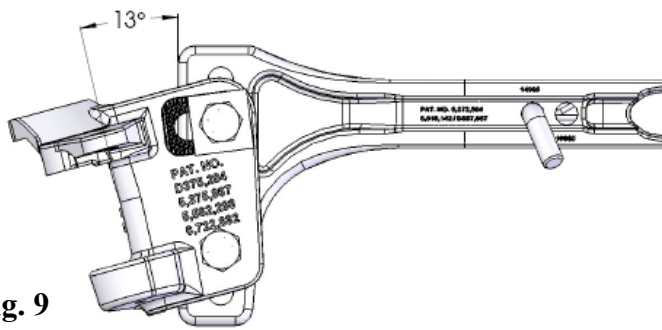

Fig. 9
- Tilt ball mount for proper "Y" dimension at the end of the spring bar. The ball mount is adjustable through a 13° angle range for proper spring bar adjustment. Fig. 9